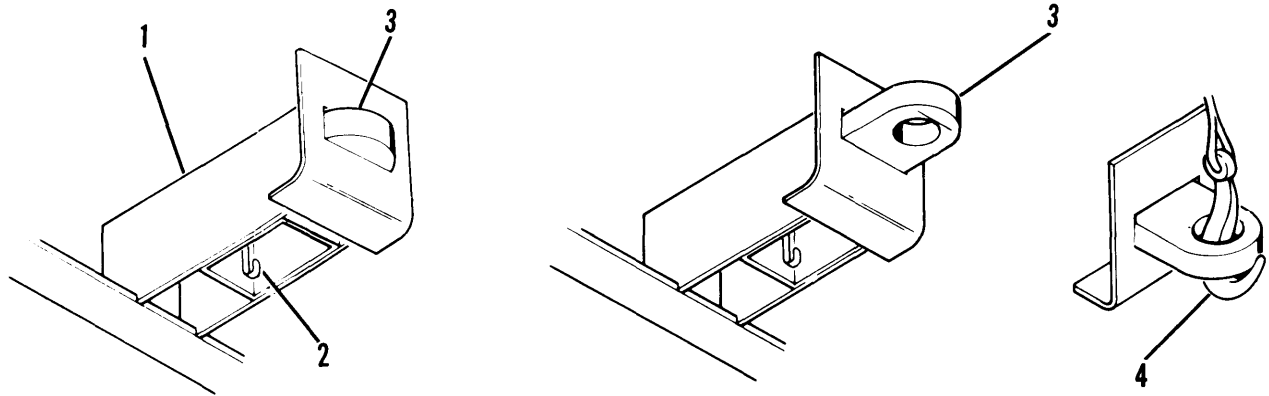

Figure 2-29. Slings
a. Pull the latch (2, fig. 2-29) down and hold; push out on bolt at rear of lifting eye.
b. Pull the lifting eye (3) out from the housing as far as it will go.